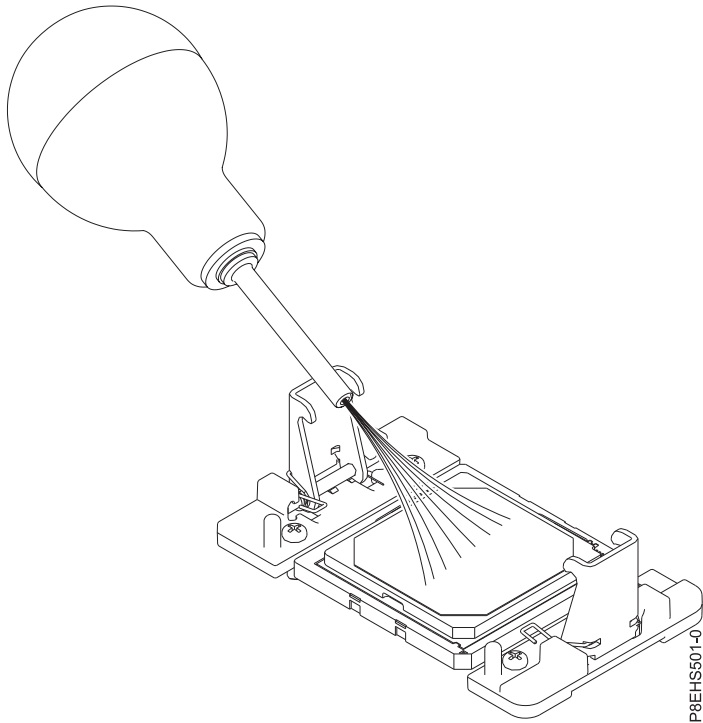

Figure 90. Removing dust and debris from the system processor module area
- a. If dust or debris is present, use the supplied air pump (part number 45D2645) to clean the system processor module area. Blow small bursts of air from the center toward the sides of the system processor module as shown in Figure 90 on page 80. If your air pump is not assembled as shown in Figure 90 on page 80, fasten the tip onto the bulb.